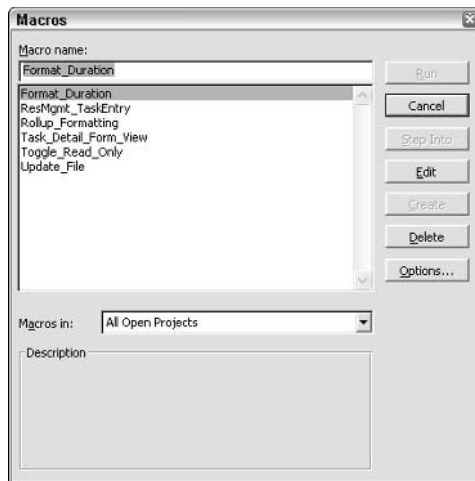

Figure 24-16: The Macros dialog box.
2. Choose Tools⇨Macro⇨Macros to open the Macros dialog box, as shown in Figure 24-16.